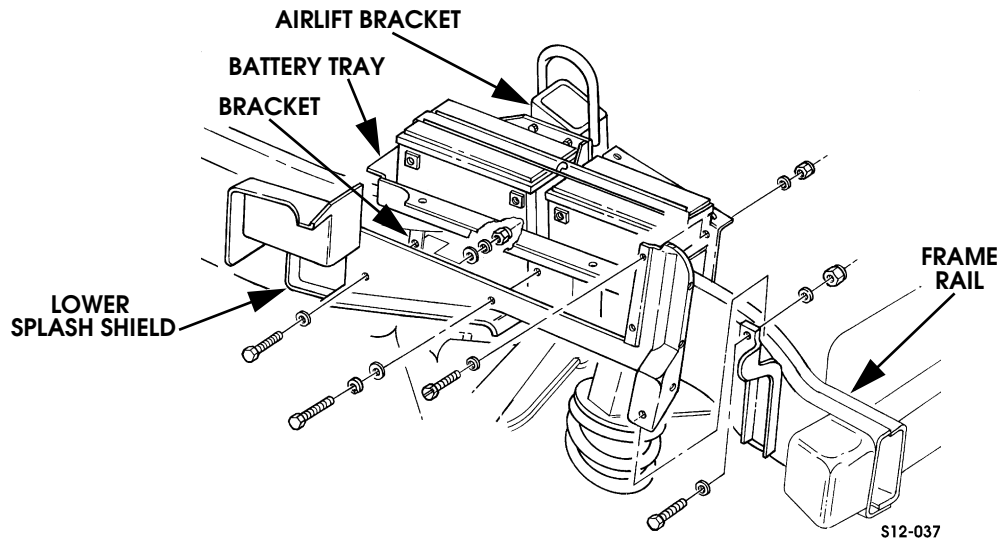

Figure 12-34: Lower Splash Shield Removal/Installation
1. Position lower shield on bracket and install fasteners (Figure 12-34).